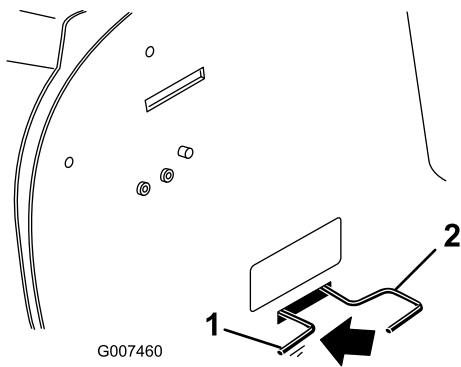

Figure 12
5. Push the drive control rod in and slide it to the left to lock it in place (model 70186 only) (Figure 12).